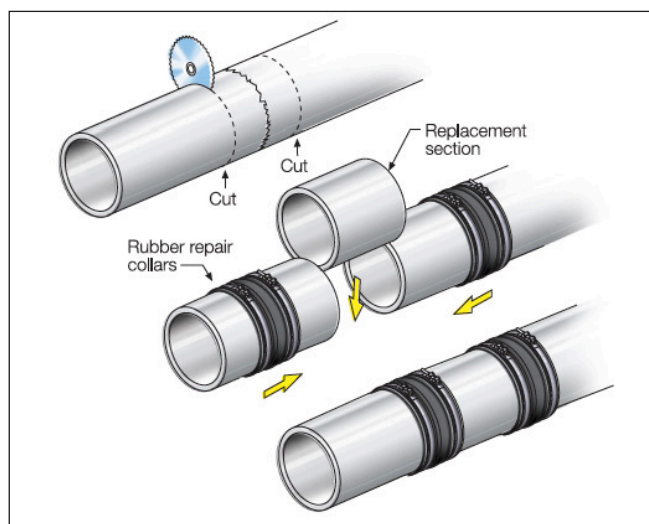

Figure 58 – Joining with unturned couplings
3. Slide and position the rubber repair collar across the joints and secure with the stainless steel straps, see Figure 58.